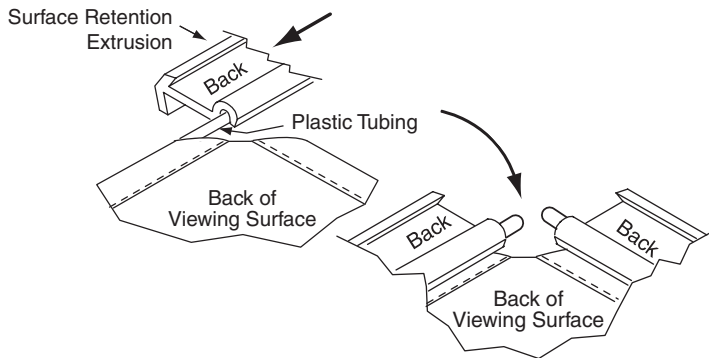

Figure 7
- ③ **Carefully** slide surface retention extrusion (rounded edge visible) along hem and onto surface on all 4 edges of fabric (see Fig. 7). **Caution: Do not allow fabric to snag on end of extrusion. If the screen fabric is not parallel with the surface retention extrusion, then it may slit and tear during installation.**